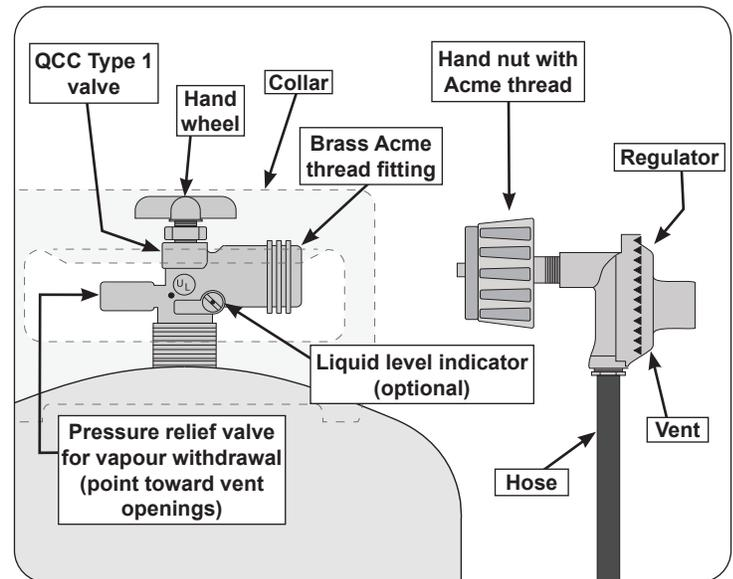

Fig. 3-1 Type I Acme thread coupler
- The cylinder used must include a collar to protect the cylinder valve. The cylinder supply system must be arranged for vapour withdrawal. See Fig. 3-1.
- When used with a cylinder, the gas supply system must be used with a pressure regulator. The pressure regulator and hose assembly (**not supplied**) used must match the specification for Type I by ANSI Z 21.58/CGA 1.6 and must comply with UL 144 as a part of the self-contained LP gas supply system (see Fig. 3-1).
To disconnect: Turn the hand nut counterclockwise until detached (Fig. 3-1).